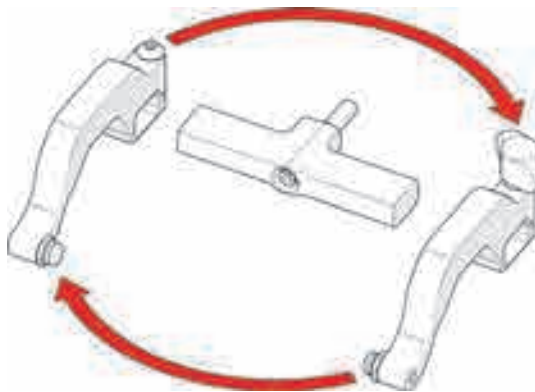

Figure 4-89 Reverse position around yoke
4. Reverse the position of the removed arms so they are at opposite sides of the yoke (see Figure 4-89 on page 157).